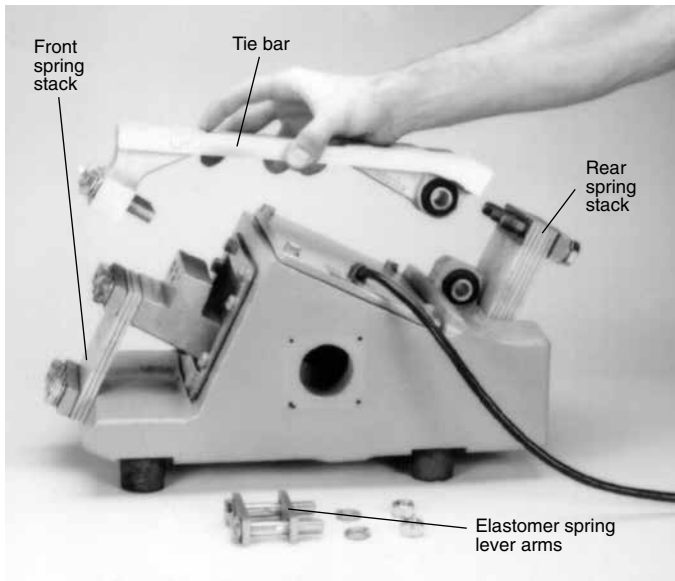

FIGURE 6
2. Remove, in order, the bolts securing (A) the upper end of the rear tuning spring stack to the tiebar, (B) the lower ends of the spring lever arms to the body housing, and (C) the lower end of the tiebar to the spring bar. Lift the tray-tiebar-lever assembly away from the body housing (see Figure 6).